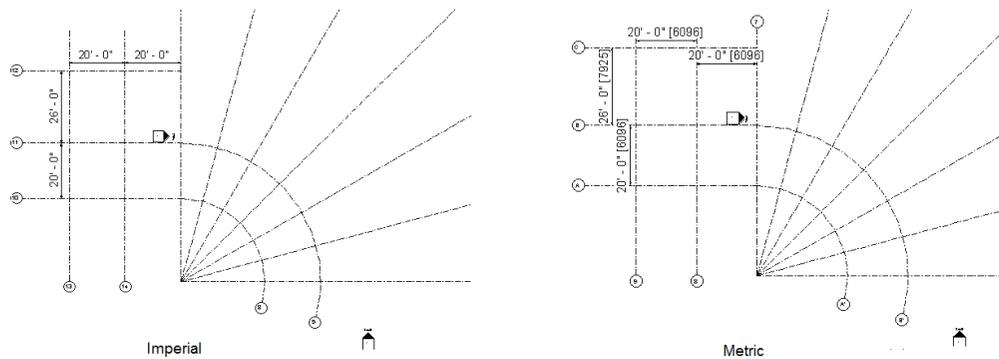

Figure 3-61 The dimensions of the remaining grid lines
21. To complete the grid pattern for the project, invoke the **Grid** tool and use the **Line** tool from the list box in the **Draw** panel of the **Modify | Place Grid** tab, the remaining grids are created with the specified distance, as shown in Figure 3-61.